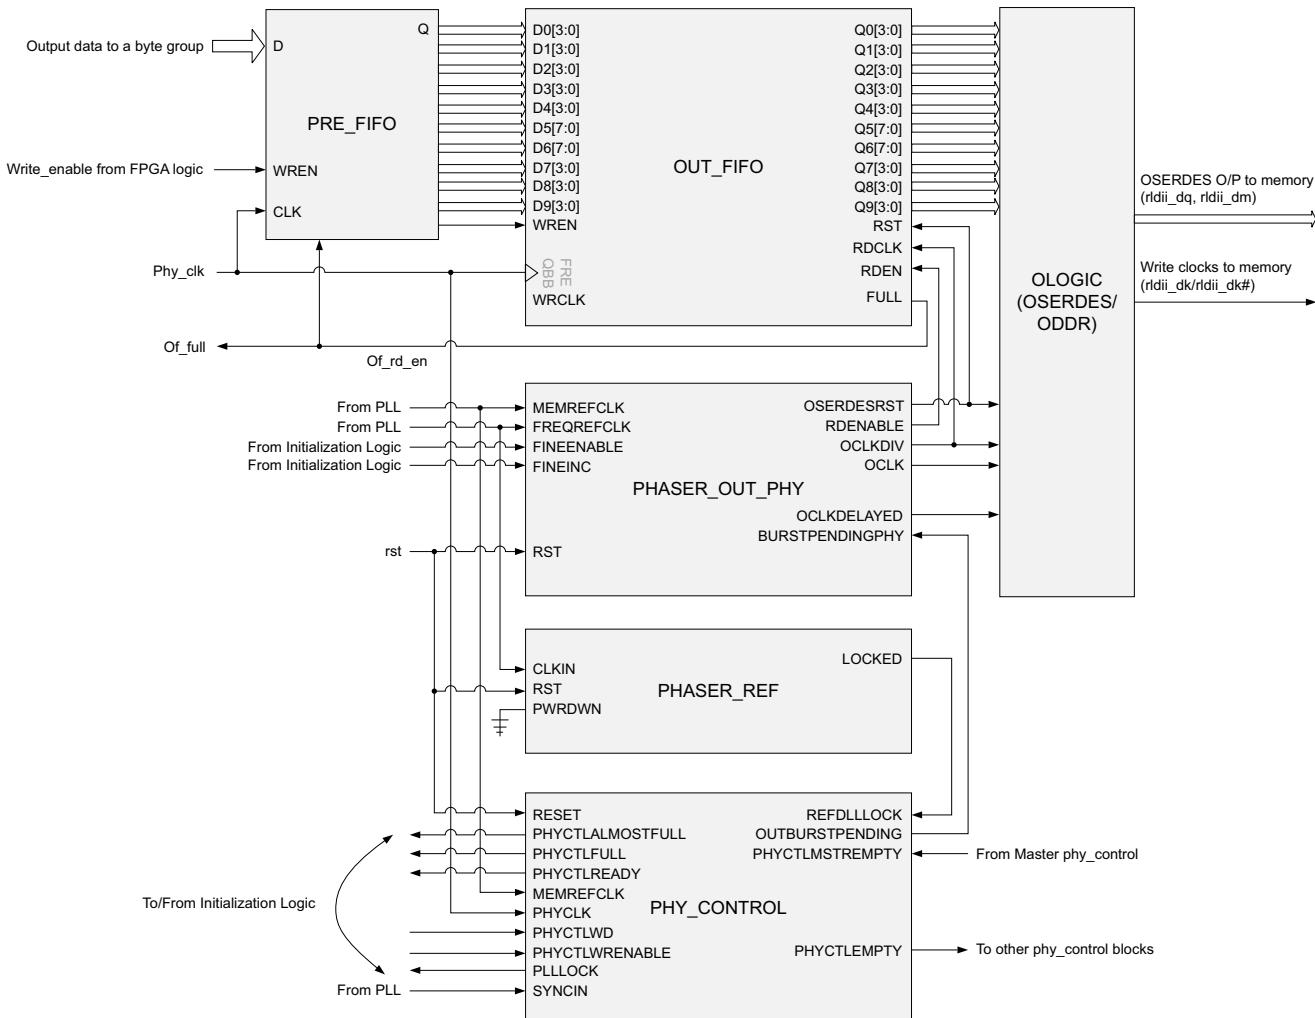

*Figure 3-49: Write Path Output Alignment*
The PHASER\_OUT\_PHY block provides the clocks required to clock out the outputs to the memory. It provides synchronized clocks for each byte group, to the OUT\_FIFOs and to the OSERDES/ODDR. PHASER\_OUT\_PHY generates the byte clock (OCLK), the divided byte clock (OCLKDIV), and a delayed byte clock (OCLK\_DELAYED) for its associated byte group. The byte clock (OCLK) is the same frequency as the memory interface clock and the divided byte clock (OCLKDIV) is half the frequency of the memory interface clock. The byte clock (OCLK) is used to clock the Write data (DQ), Data Mask (DM), Address, controls, and system clock (CK/CK#) signals to the memory from the OSERDES/ODDR. The PHASER\_OUT\_PHY output, OCLK\_DELAYED, is an adjustable phase-shifted output with respect to the byte clock (OCLK) and is used to generate the write clock (DK/DK#) to the memory. Figure 3-49 shows the alignment of the various clocks and how they are used to generate the necessary signal alignment.